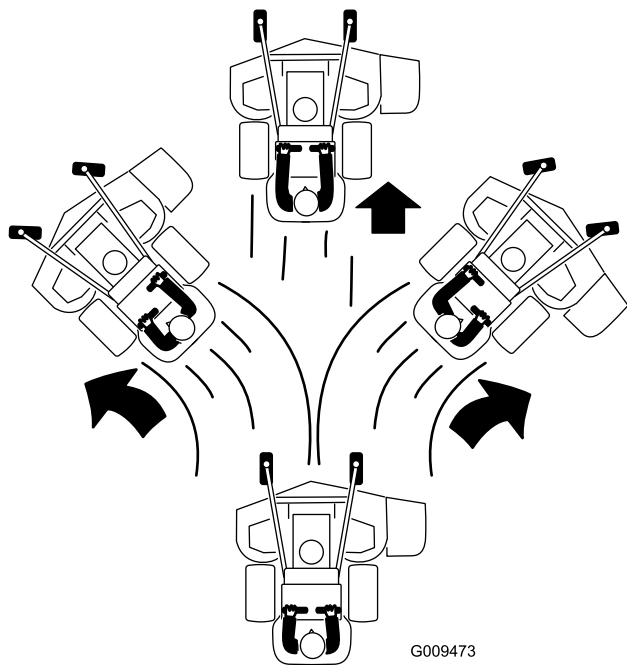

Figure 21
4. Slowly push the motion control levers forward (Figure 21).